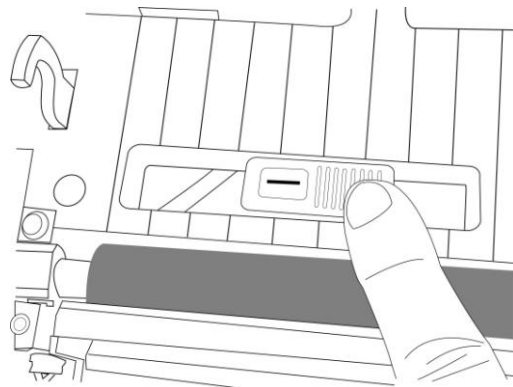

Figure 25
3. Slide the media sensor until the reflective sensor aligns with the gap or notch. (Figure 25)